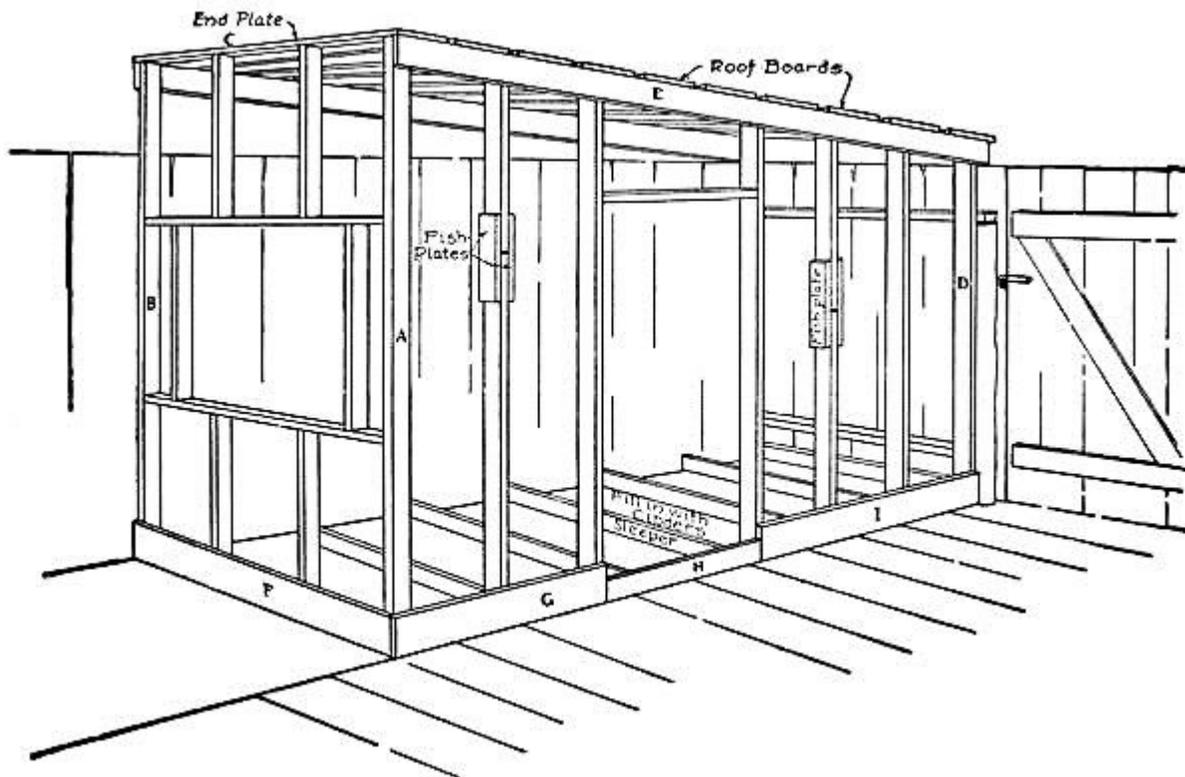

FIG. 184.—Framework of Club-house.
**Stake out** the length and width of the house upon the ground, and sink a stone or a couple of bricks at the corner to support the corner post. Then cut two two-by-fours the length of the greatest inside height of the house. Set one upon the corner stone, bracing it temporarily with boards run from it to the fence, and spike the other to the fence on a line with the corner post (see *A* and *B* in Fig. 184). Cut the end-plate *C* the correct length and spike it to *A* and *B*, after which cut a two-by-four the length of the shortest inside height, and spike it to the fence rails at *D*. Nail the boards *E*, *F*, *G*, *H*, and *I* to the places shown in Fig. 184.